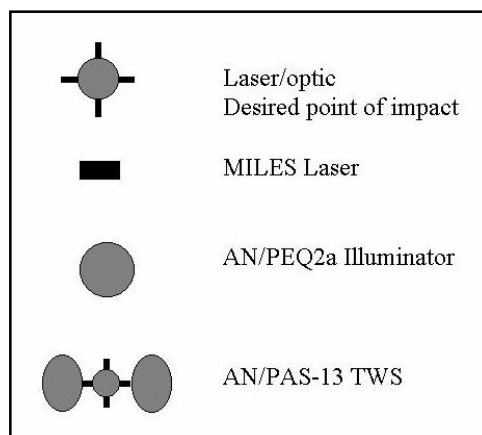

Figure H-1. 10-meter target offset symbols.
- c. Place the appropriate symbol or mark (Figure H-1).